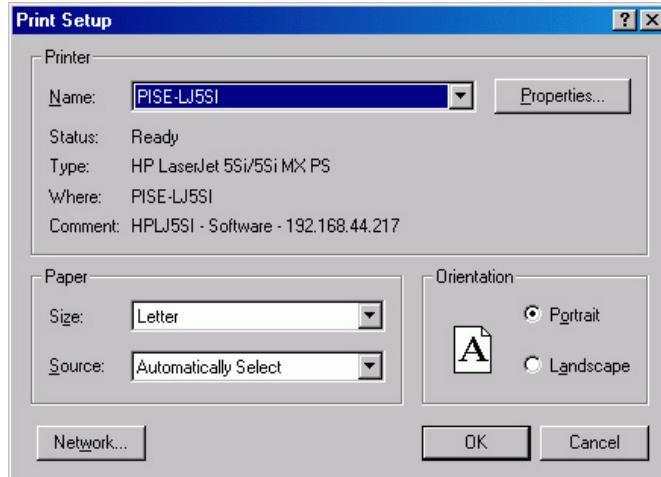

Figure 154. Print Setup dialog box
1. Open the file you want to print. Make sure that window is the active one. From the File menu, open the Print Setup dialog box (Figure 154).